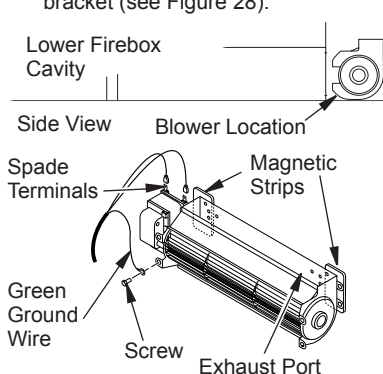

Figure 27 - Blower Model BK
1. Attach power cord to blower motor by firmly pushing two female terminals at end of power cord onto two spade terminals on blower motor (see Figure 27).
2. Attach green ground wire from power cord to blower housing using screw provided (see Figure 27). Tighten screws securely.
3. Place blower against lower rear wall of firebox outer wrapper with exhaust port directed upward. Blower will fit inside the back opening and be held in position against back wall by magnets (see Figure 27).